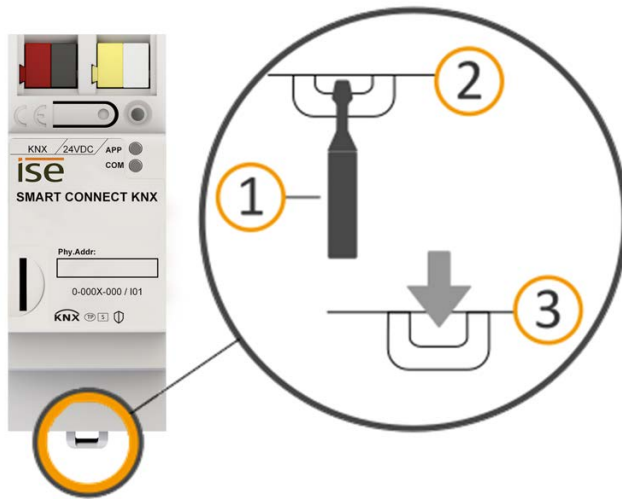

Figure 26: Detaching the device from the top-hat rail
1. Insert a screwdriver (see figure 26, item 1) into the release lever (see figure 26, item 2) and push the release lever down (see figure 26, item 3).